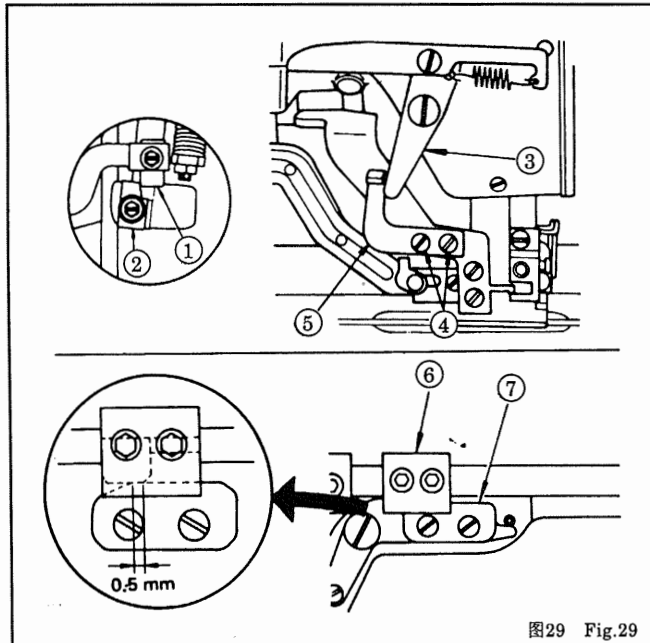

图29 Fig.29
26. 面线剪刀托架和面线剪刀限位板的调节 图29
26. ADJUSTMENT OF NEEDLE THREAD TRIMMER HOLDER AND LIMITING PLATE Fig.29